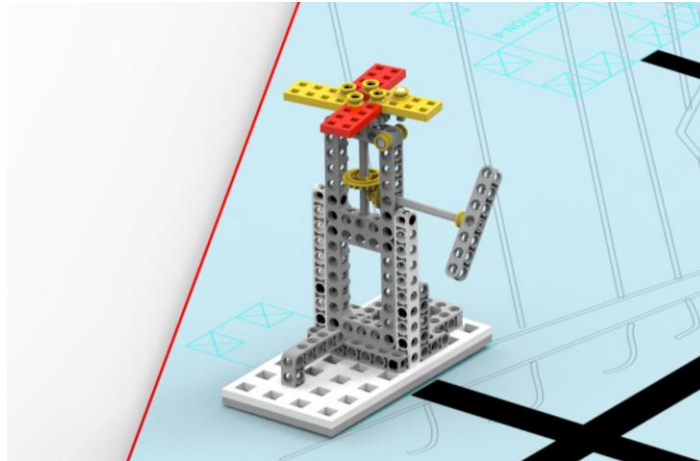

Figure 6 Fan model after repair
3.3.2 If the robot can erect the fan perpendicular to the site, 40 points are given, as shown in Figure 6.